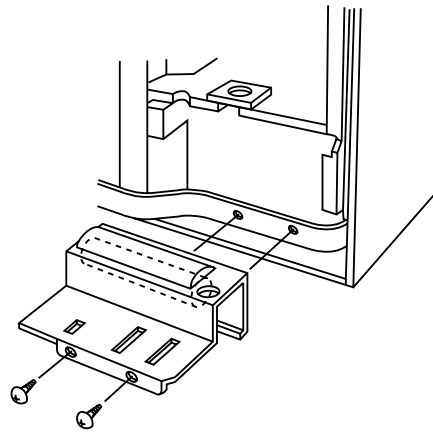

Fig. 21
- (7) To remove the capacitor box, lift the box up and pull it toward you. (Fig. 21)